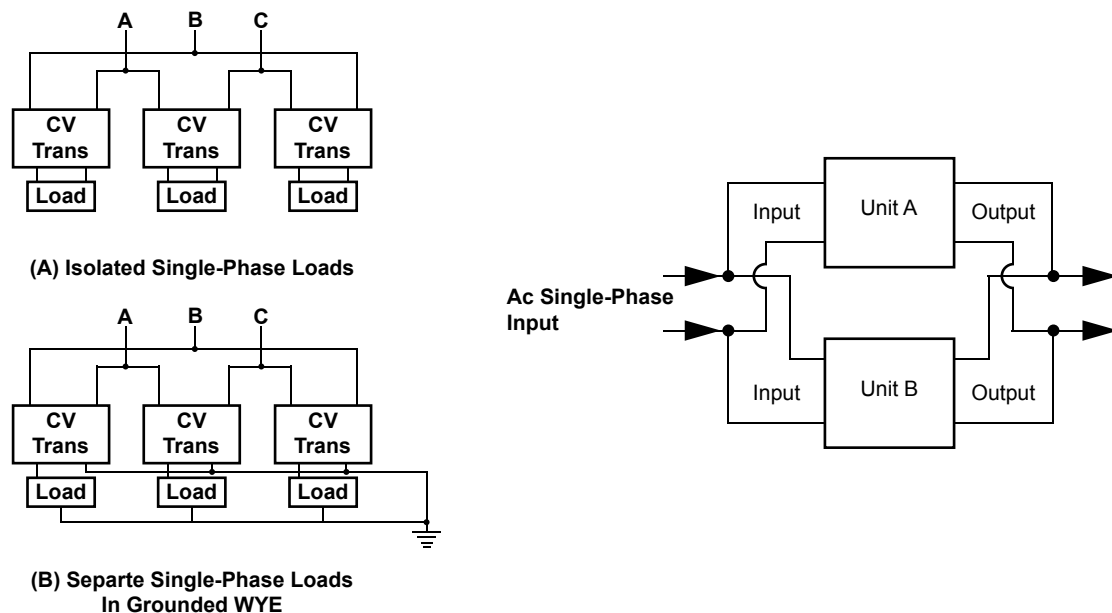

FIGURE 11
Units of the same SolaHD catalog number may be connected in parallel to obtain a larger load capacity. Both input and output connections must be made in parallel (see Figure 11). The SolaHD catalog number must end in -8 or -C8 and must be larger than 1 kVA. No portable units can be paralleled.
This circuit arrangement is not intended to serve single-phase line-to-line loading or three-phase Delta loading. Outputs must serve three independent, single-phase loads of the same total Volt-Amphere (VA) rating. Connections should be made in one of two ways as shown in Figure 11.